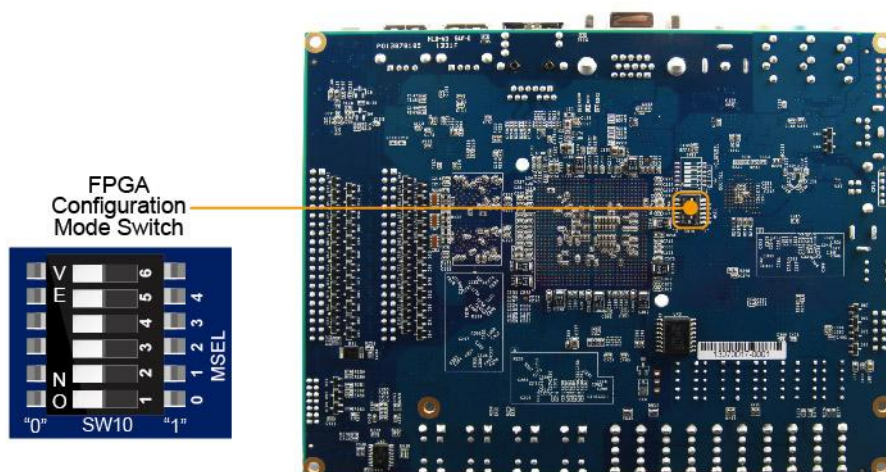

Figure 6-2 MSEL Setting
- Make sure the MSEL[4:0] is set to “00000” for HPS to configure FPGA (See **Figure 6-2**).